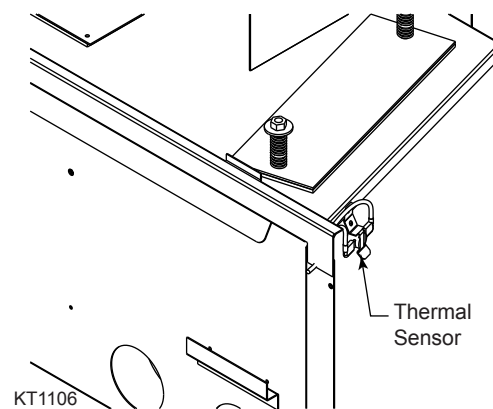
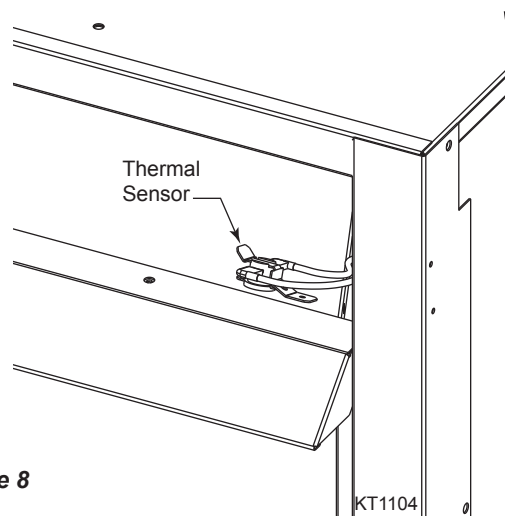

Figure 7
Figure 8
3. The junction box cover has a factory installed "romex" style strain relief connector. After connecting the wires, route the wire leads through this connector. Refer to the wiring diagram in *Figure 8*.
Check for pre-installed thermostat sensor clip location. For BDV, CDV, DVB, DVHB, HBDV the sensor is located on the right side at the top of the firebox. *Figure 7*. For CFX32, DFX32, DV Designer Series, the sensor clip is located behind the top louver on firebox top. *Figure 8*